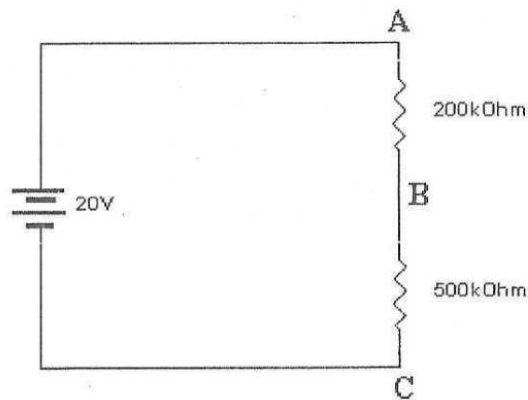

FIG. 1
- A. Wire the circuit of FIG.1 on the next page